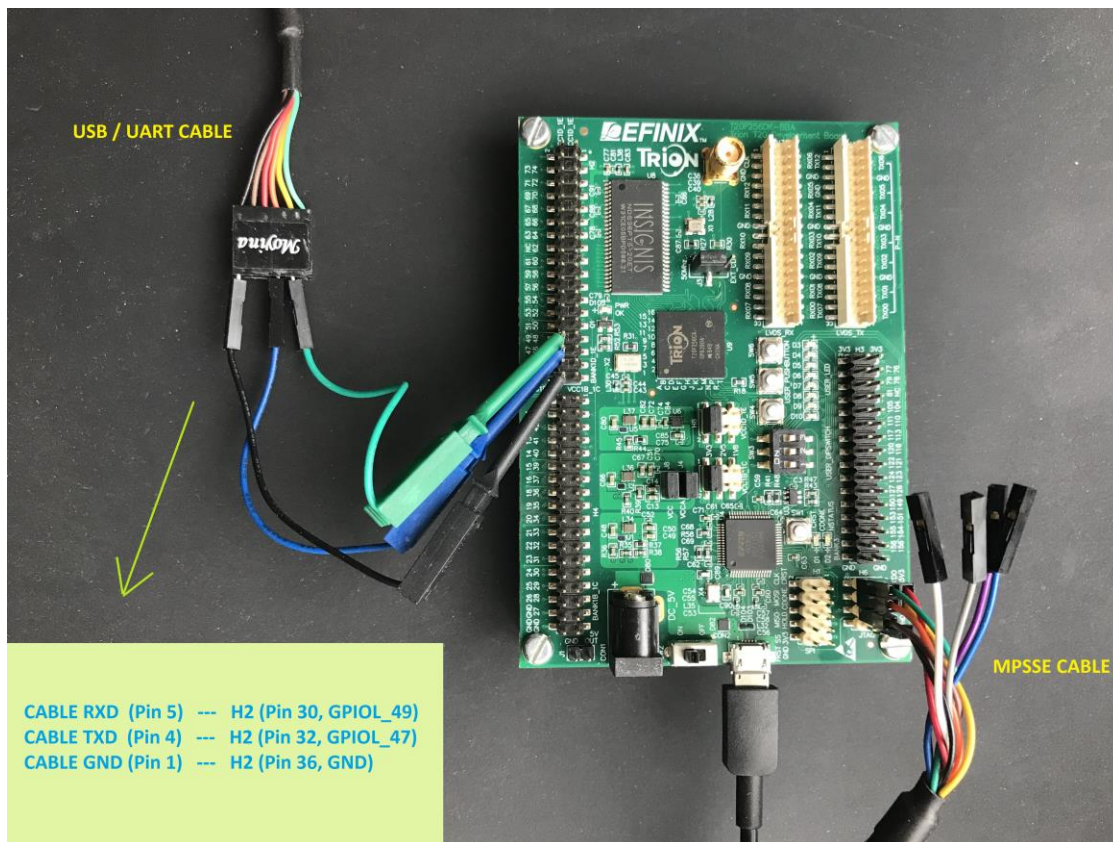

Figure 1-2 Cable Connection
And the rest of the document will assume TTL-232R-3V3 Cable is used. The pins on the cable should be connected to the H2 connector on the T20 Dev Kit, as illustrated in Figure 1-2.
1. Connect FTDI MPSSE Cable to the T20 Dev Kit's JTAG header (Figure 1-2) and the PC
As indicated early Figure 1-2, a USB/UART cable is needed to connect the T20 Dev Kit to PC.